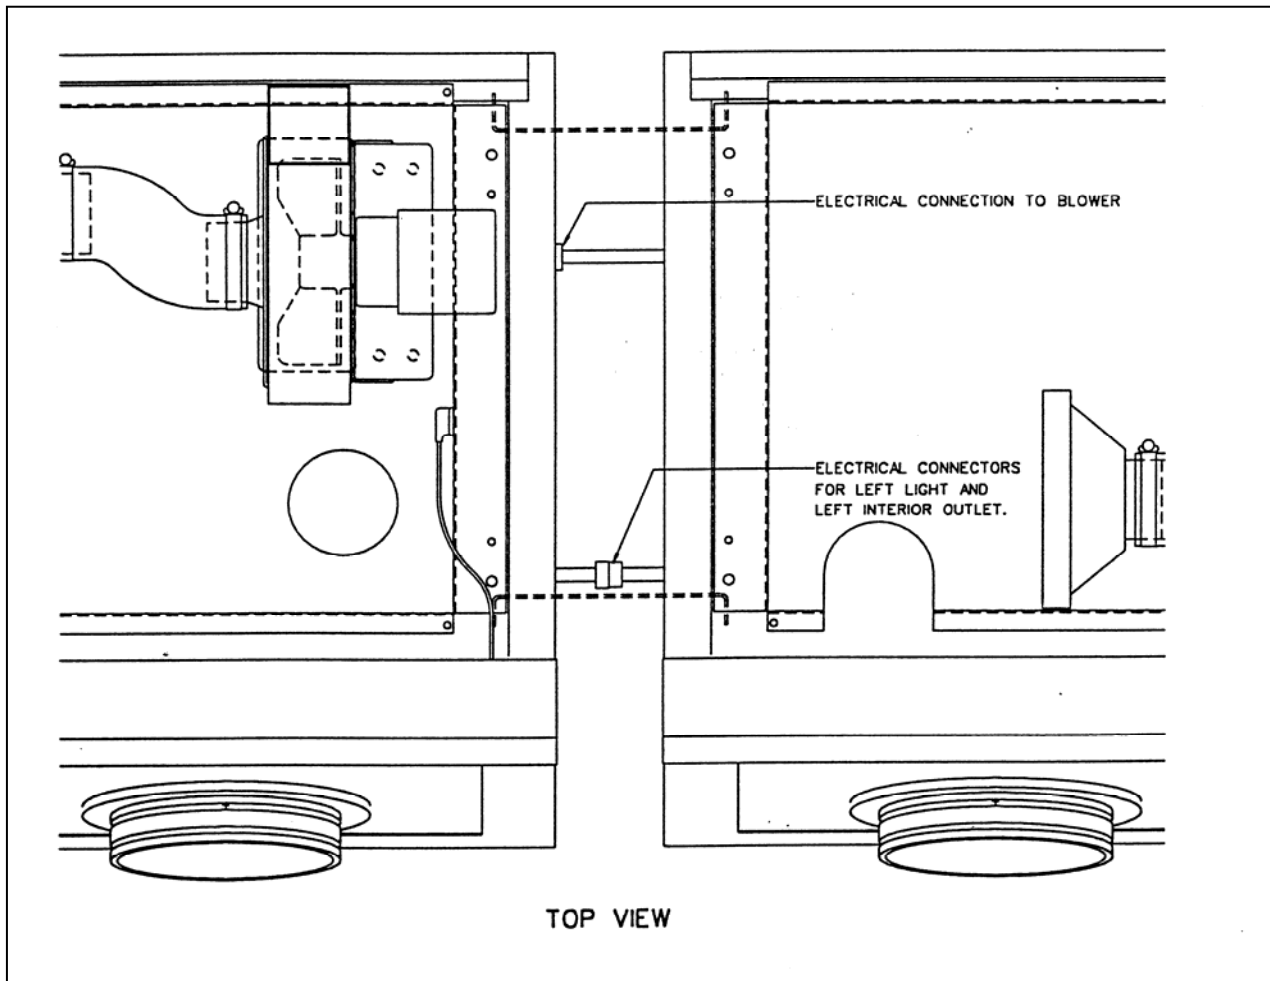

Figure 7
Step 5: Make connections for electrical systems at the top between the two glove box modules as shown in Figure 7